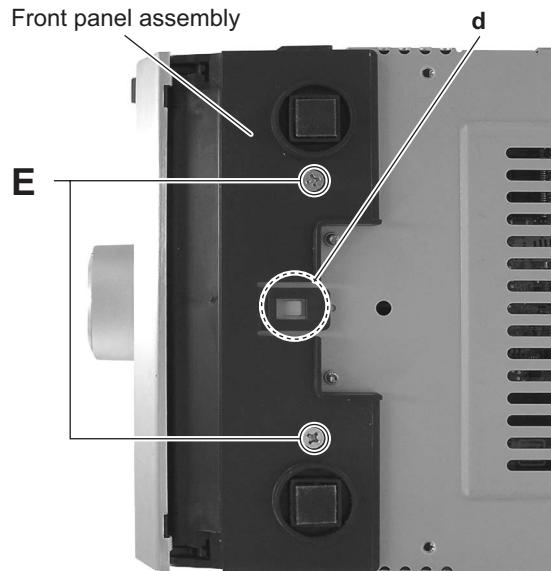

Fig.7
(See Figs.7 and 8)
- (1) From the bottom side of the main body, remove the two screws **E** attaching the front panel assembly. (See Fig.7.)
- (3) From the bottom and both sides of the main body, release the joints (**d**, **e**) of the front panel assembly and remove the front panel assembly in the direction of the arrow. (See Figs.7 and 8.)